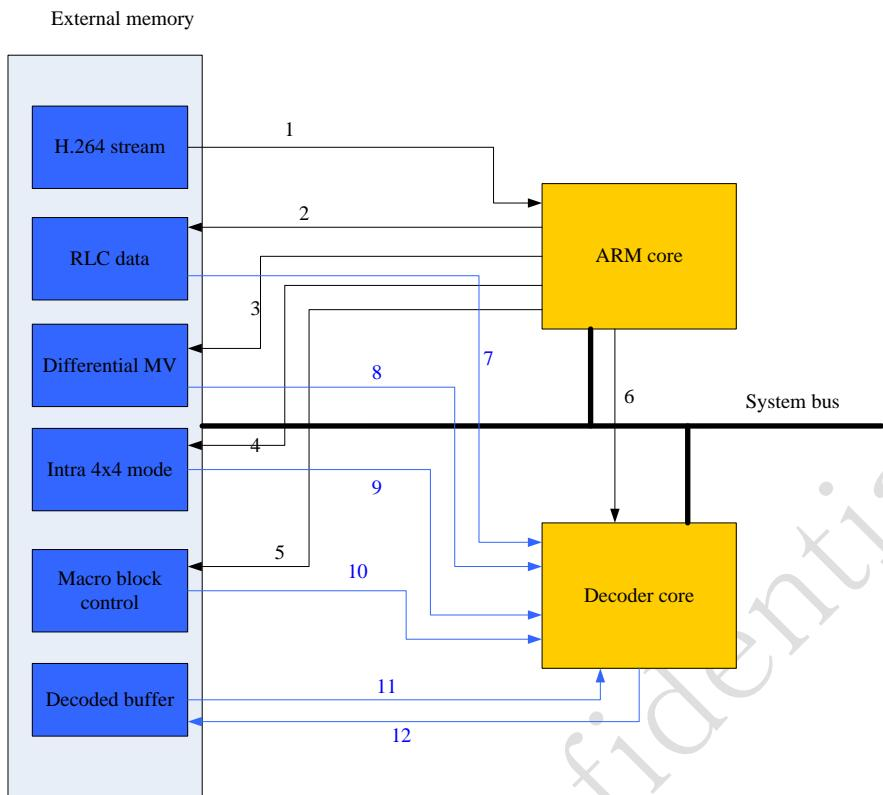

Fig.17-5 Dataflow of SW performs entropy decoding in video decoder
SW entropy decoding mode (RLC mode) changes the input data format that is transferred from SW to HW. The dataflow of this mode is as Fig.17-5. In this case the decoder software starts decoding the first picture by parsing the stream headers (1), and by performing entropy decoding. Software then writes the following items to external memory: